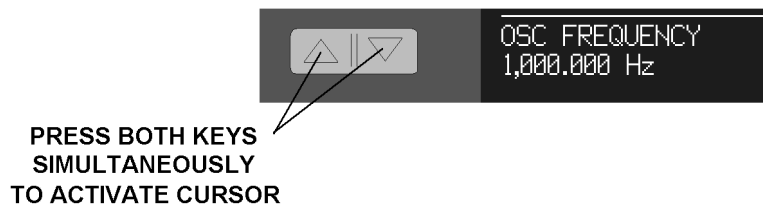

Figure 4-3, Active Cursor Activation
- Step 1 Simultaneously press both sides of the  key adjacent to the control. In the example shown in figure 4-3 the internal oscillator frequency will be adjusted, since this is the control displayed adjacent to the keys. A cursor appears under one of the displayed digits (see also figure 4-4).